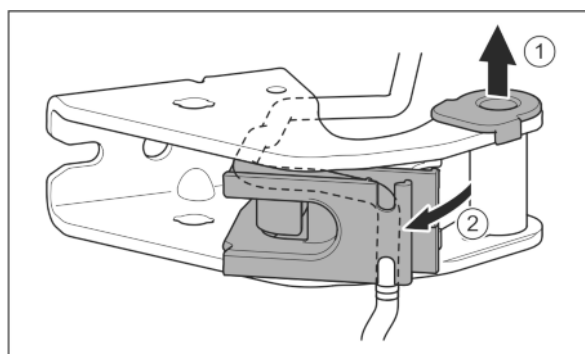

Fig. 23
- ▶ Pull the bearing bush out of the guide. *Fig. 23 (1)*
- ▶ Swing the cable holder out. *Fig. 23 (2)*